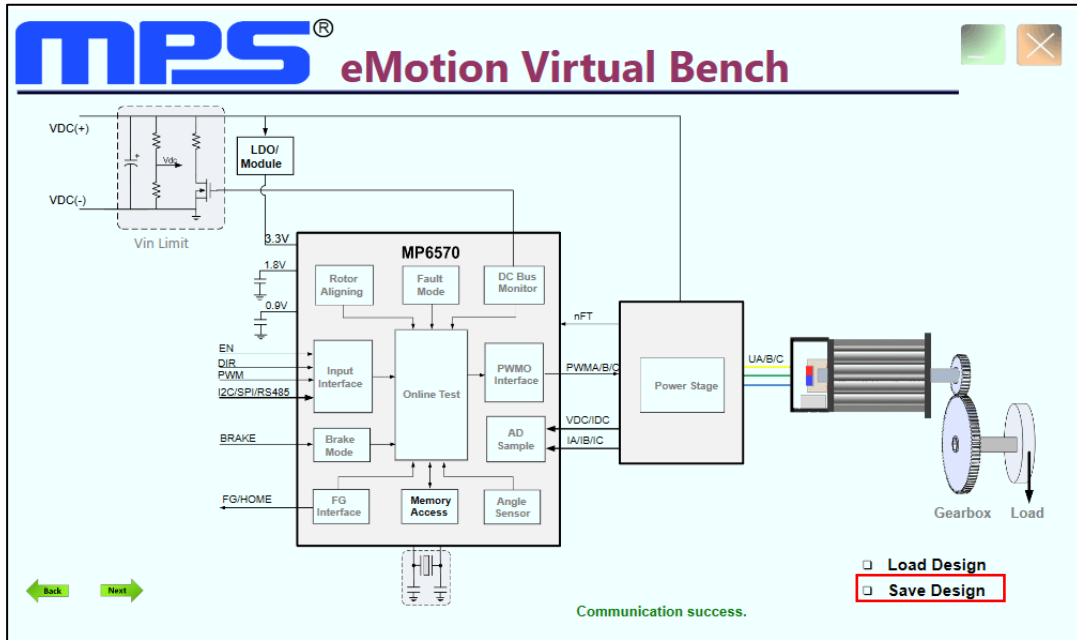

Figure 14: Save the Parameters with “Save Design”
4. Click the “Save Design” button to save the parameters (see Figure 14).